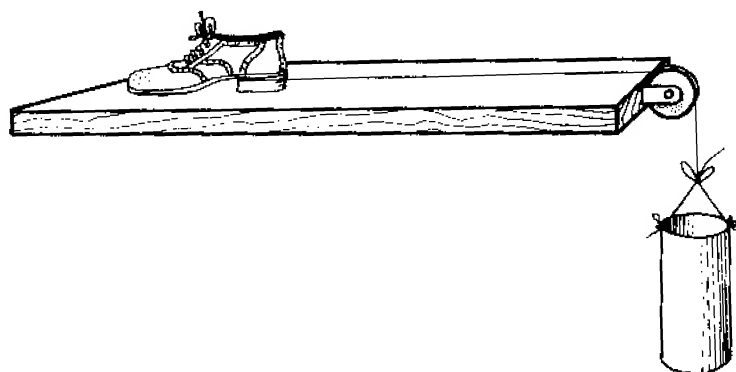

Figure 10.4 Testing the grip of a shoe
4. Place the shoe on the end of the friction board and put the string over the pulley, making certain that the string will produce a horizontal pull on the shoe (see Figure 10.4).